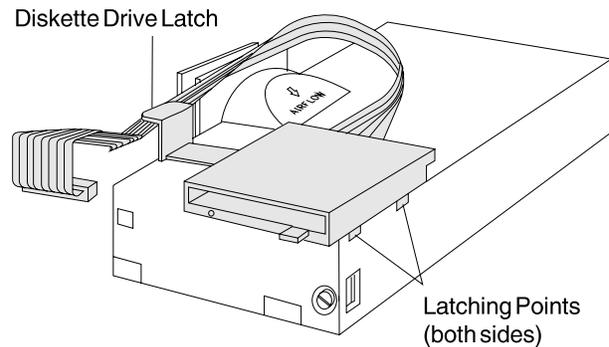

Figure 3-6. Diskette Drive
4. Attach the longer of the two cables to the diskette drive. See Figure 3-6. The folded end of the cable will be attached to the logic tray later.
5. Align the four guides on the bottom of the diskette drive with the elongated holes in the top of the power supply. Then slide the diskette drive to the left until the latch engages. Route the cable as shown in Figure 3-6.